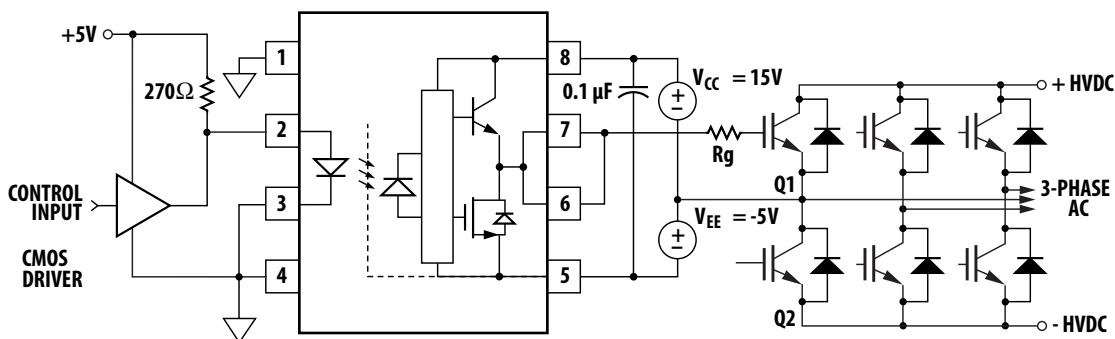

Figure 26. ACPL-312T typical application circuit with negative IGBT gate drive.
**Step 1:** Calculate  $R_g$  Minimum from the  $I_{OL}$  Peak Specification. The IGBT and  $R_g$  in Figure 26 can be analyzed as a simple RC circuit with a voltage supplied by the HCPL-3120.
For the circuit in Figure 26 with  $I_F$  (worst case) = 16 mA,  $R_G$  = 8  $\Omega$ , Max Duty Cycle = 80%,  $Q_G$  = 500 nC,  $f$  = 20 kHz and  $T_A$  max = 85C: